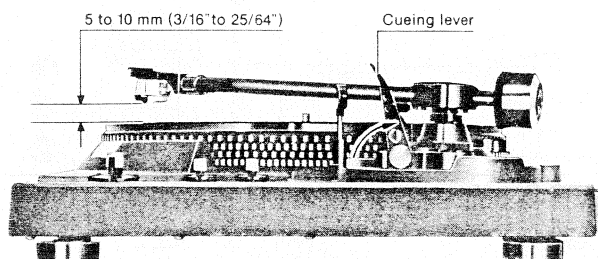

Fig. 8
1. Adjustment of the arm lift height (See Figs. 8 and 9)